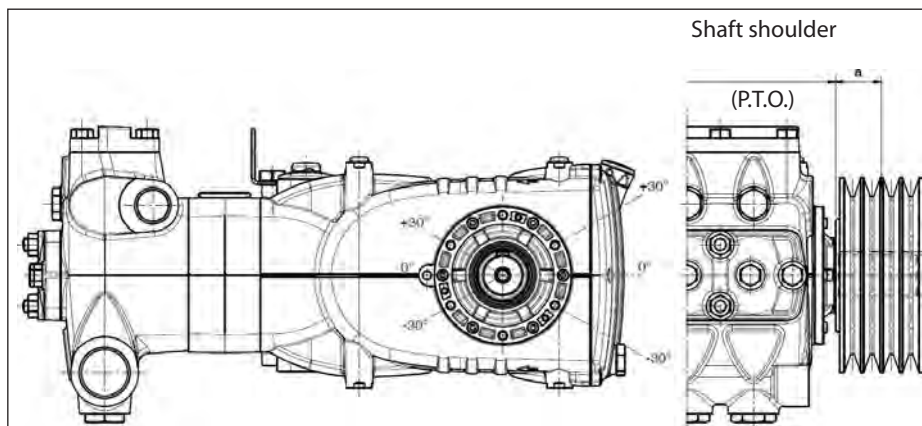

Fig. 10
The radial load on the shaft must not exceed 7500 N (value necessary for Layout definition). The transmission is considered adequate if the load is applied to a maximum distance $a=40$ mm from the shaft shoulder (P.T.O) as shown in Fig. 10.
- b) Use high performance belts – for example **XPB** instead of **SPB** – as a lower quantity of belts for the same transmitted power may be necessary and a consequent shorter resulting distance compared to the shaft shoulder (P.T.O) "a" of Fig. 10.